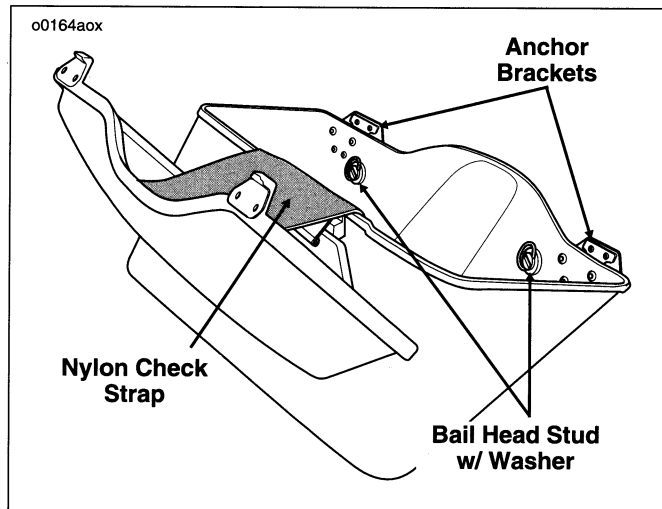

Figure 21. Bail Head Studs
6. See Figure 21. As you bring cover toward you, let it flip over, so the inside faces up. A nylon check strap suspends the lid in the open position.
1. See Figure 21. Unscrew saddlebag "Bail Head Studs" by turning 1/4 turn counterclockwise (CCW). **Save** the washers and studs.
1. See Figure 21. Carefully place saddlebag in position and align the anchor brackets on the saddlebag with the support bracket on the motorcycle.
3. Fasten "Bail Head Studs" and washer by pushing into front support bracket and rotate 1/4 turn clockwise (CW).